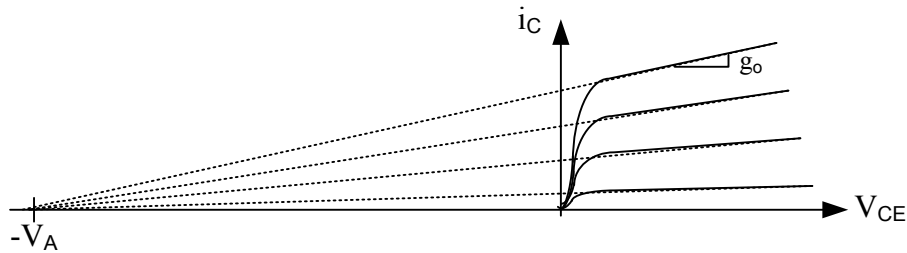

Fig. 3. Transistor's output characteristics for a family of  $V_{BE}$  voltages.  $V_{BE0} < V_{BE1} < \dots < V_{BE3}$ .
For a given  $V_{BEQ}$ , the collector-emitter voltage can also be swept leading to the transistor's output characteristics shown in Fig. 3. For small  $V_{CE}$  ( $< 300$  mV), the potential is not large enough to attract the carriers traveling from the emitter to the base terminal, and the collector current is very small. If  $V_{BE}$  increases, the collector current increases following the exponential rule given by (1). The slope of one of the curves determines the output conductance, obtained as